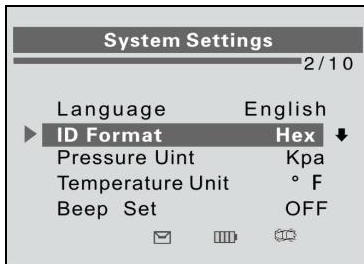

Figure 2.4
- 1) From **System Settings** screen, use the **UP/DOWN SCROLL** button to select **ID Format**, and press the **Y** button. (Figure 2.4)